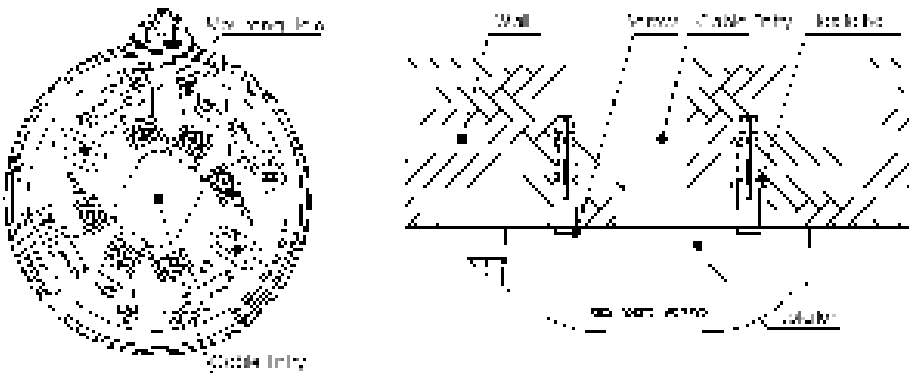

Figure 2 Wiring Diagram
3. Figure 2 is the installation of the isolator Base. The isolator base can be Installed on the wall with screws through the mounting holes. The wires are connected to the terminals of the isolator through the cable entry.